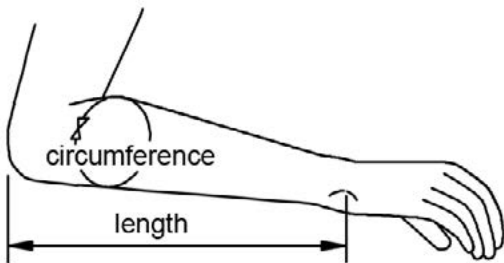

Figure 4: Measurement
**Normal sized** models support forearms between 23 and 29 cm of length and between 23 and 29 cm of forearm circumference (fig 4).
**Large sized** models support forearms between 23 and 29 cm of length and between 28 and 34 cm of forearm circumference (fig 4).